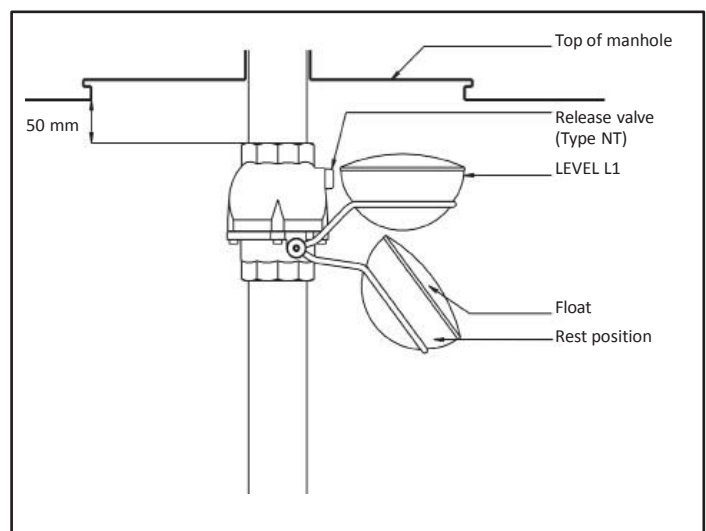

figure 2
- 2: Mount the overflow prevention device on the pipe sleeve under the manhole plate placing the float under the tester. The 50mm minimum distance between the top of the overflow prevention device and the tank generator must be respected in all circumstances. (Figure 2)